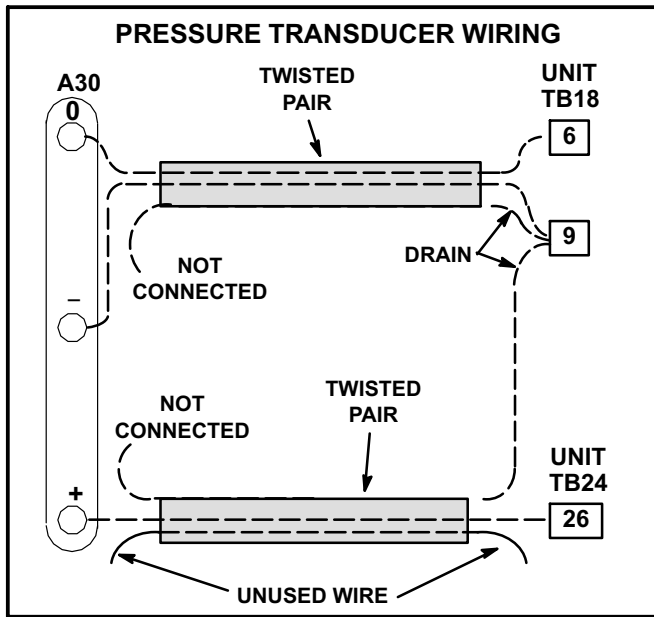

FIGURE 27
- 2- Two twisted pairs of shielded cable must be used to connect the pressure transducer. See figure 27.